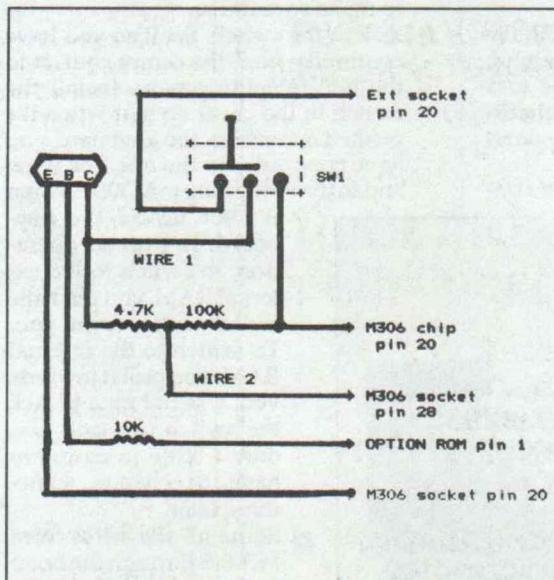

Figure 1. The wiring diagram for adding the external Tandy 200 RAM modules' socket to your Tandy 200.
8. Add the transistor circuit. The circuit in Figure 1 should fit in the memory compartment. There's a small hole in the edge of the memory board where it's held in place by a plastic tab (see Photo 1). The wires that need to go to the solder side of the board will just fit through that. If you've added banks two and three using Paul Globman and James Yi's Budget Bank (May 1988, June 1988, and April 1989 Portable 100 issues), modify your circuit to match the one in Figure 1.